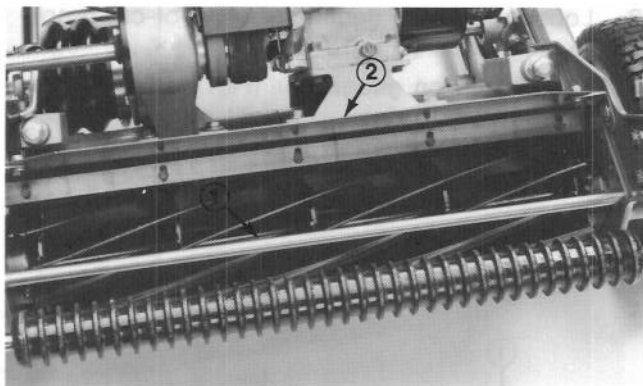

Figure 16
1. Measure distance from top of front crossbar to shield at each end of cutting unit (Fig. 16).